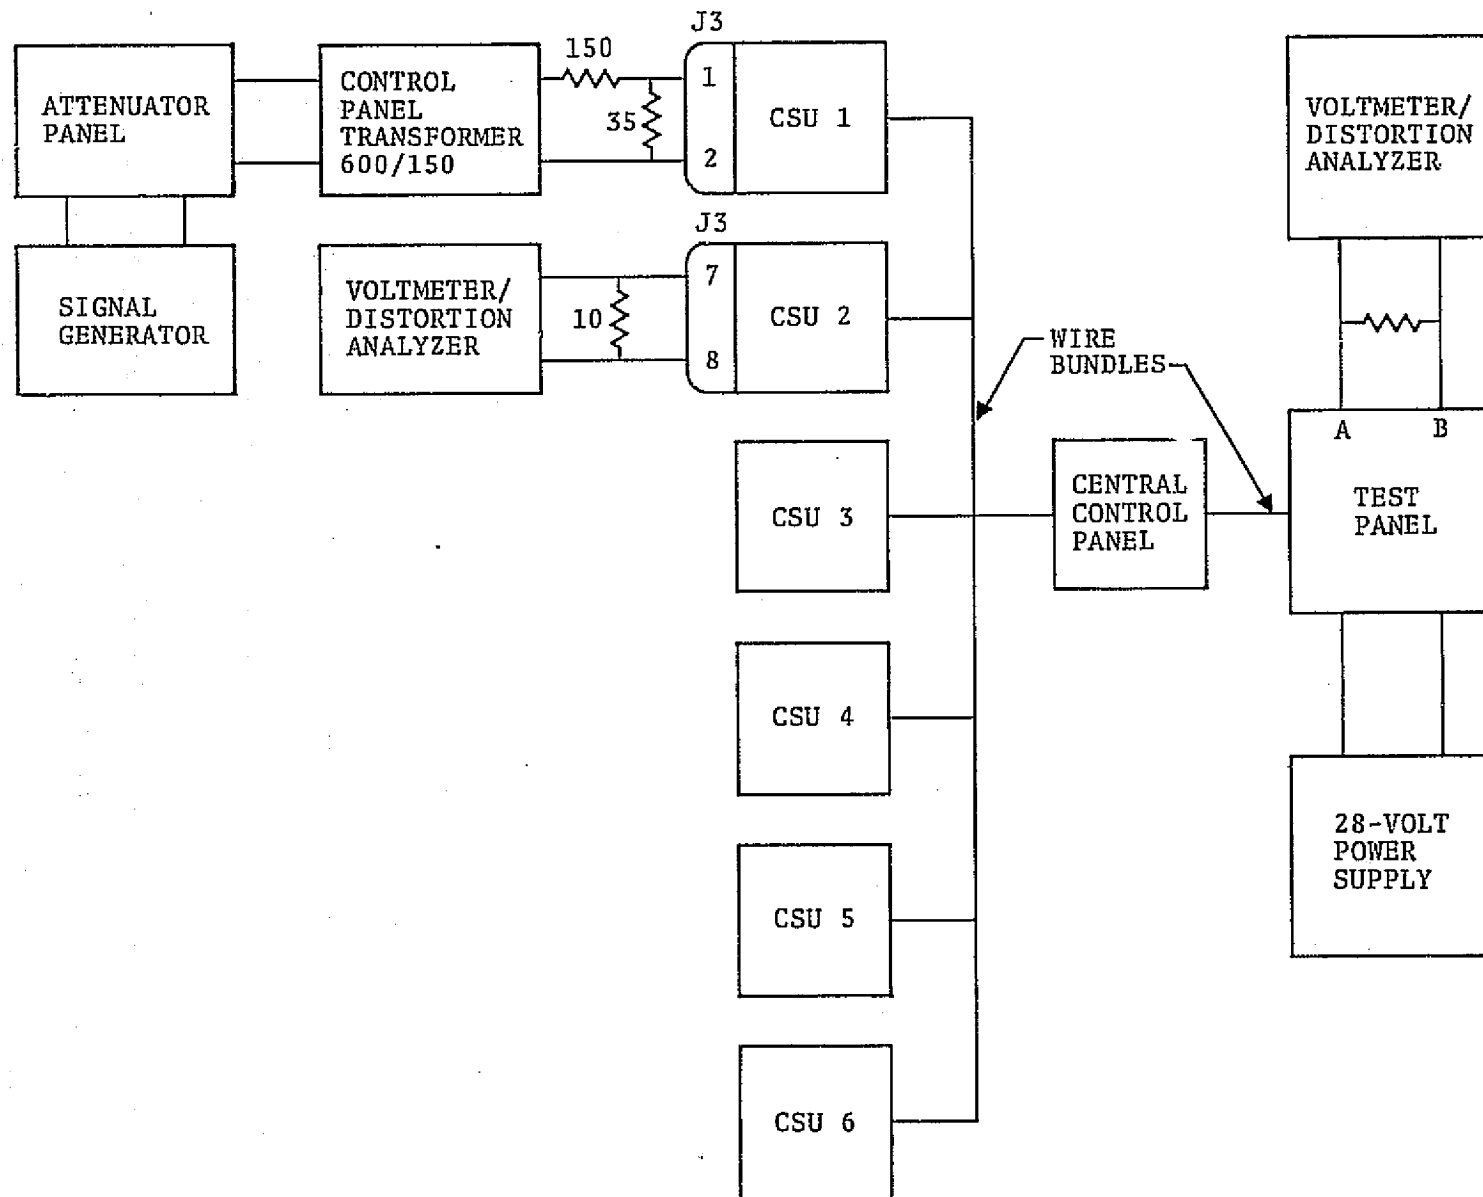
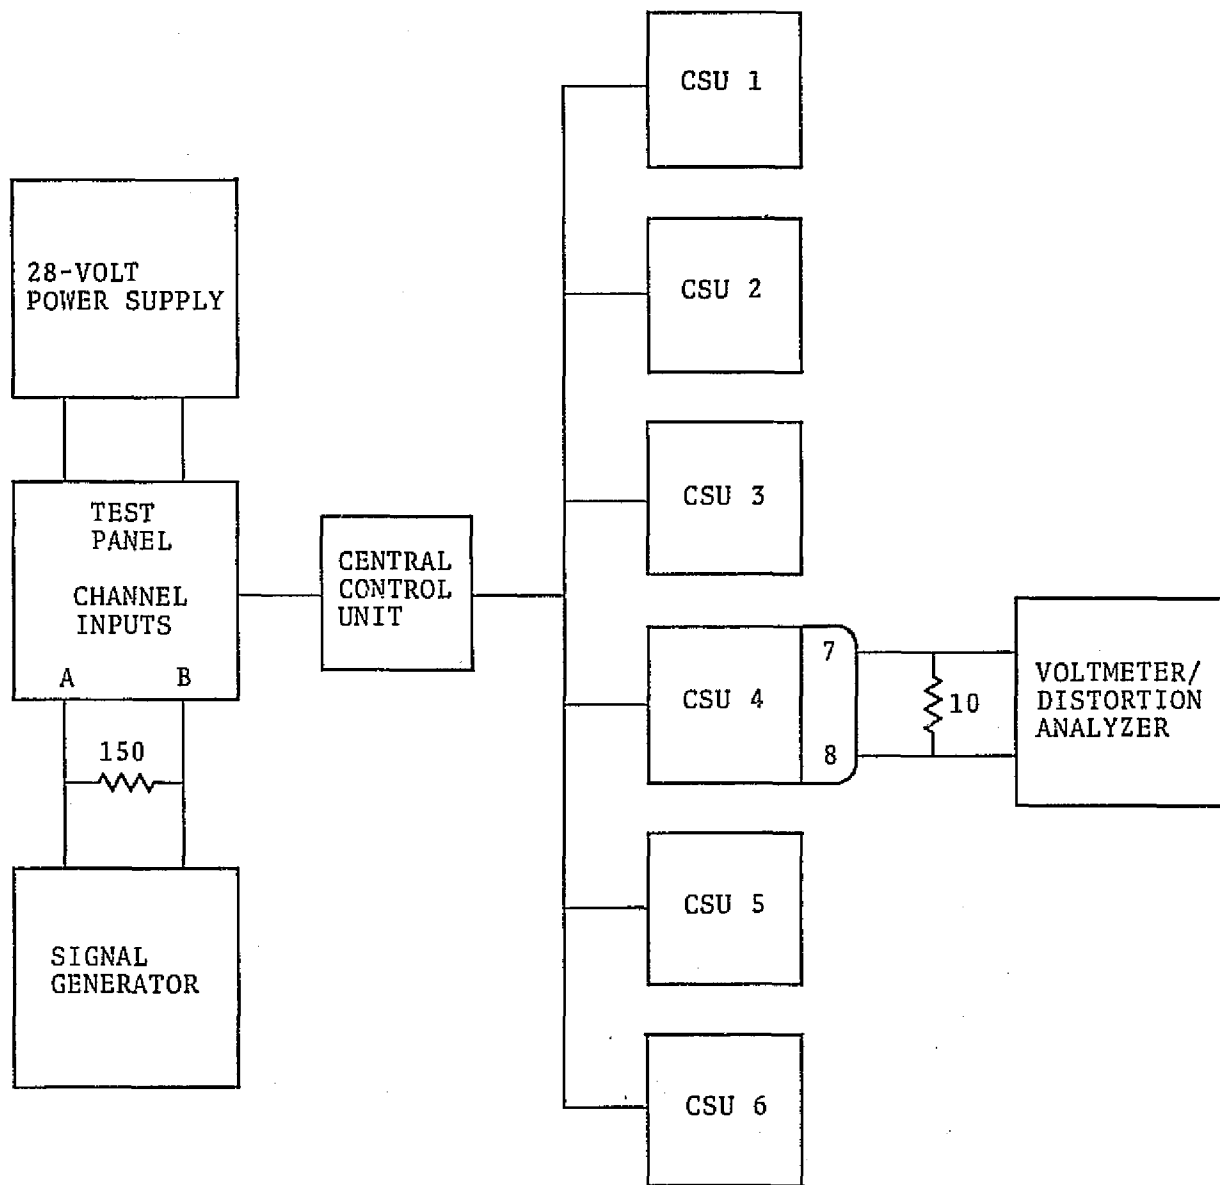

Figure 6-1. - Intercomm mode and transmit mode typical test setup.
Figure 6-2. - Receive section typical test setup.
The tests which the following sections describe, requires various test set-ups. Figure 6-1 is typical for the intercomm mode and transmit mode tests, figure 6-2 is typical for the receive section tests and separate illustrations are provided for the auxiliary tests.
1. Connect the equipment as shown in figure 6-1.
1. Connect the equipment as shown in figure 6-1. Set the signal generator to OFF.
1. Connect the equipment as shown in figure 6-1, with
1. Connect the equipment as shown in figure 6-2.